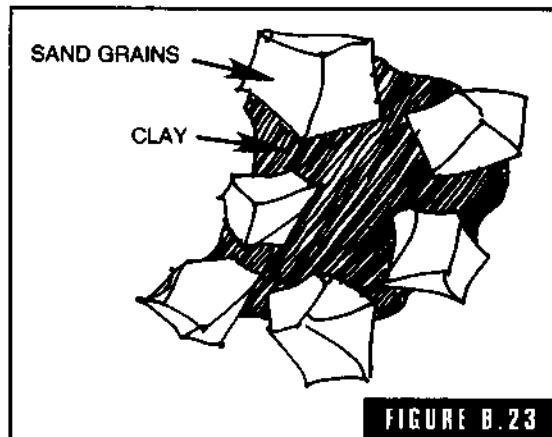

FIGURE B.23
**bonding action of clay in molding sand** Although most clay is sticky when moist, the sand grains of the mold are held in place by clay wedges that hold the sand grains in place, as in a stone wall—the old wedge and block theory (Fig. B-23).